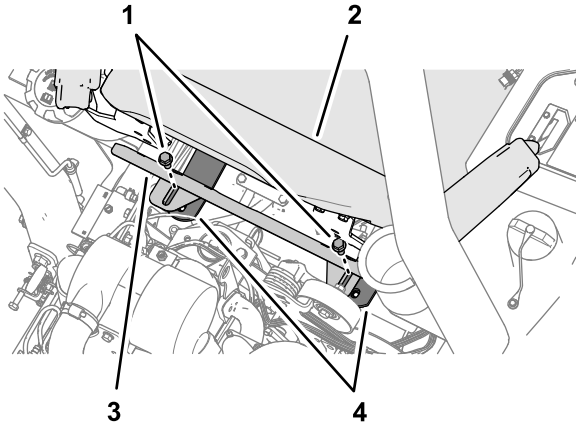

Figure 2
1. At the back of the operator's seat, remove the 2 flange-head capscrews that secure the heat shield and seat straps cross tube, and remove the heat shield (Figure 2).